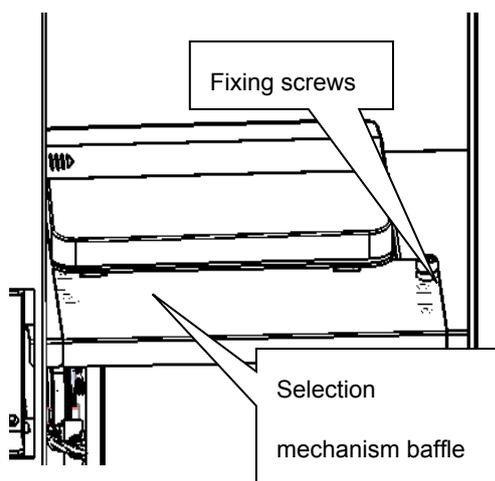

Figure 8-21
1. Remove the fixing screws of the selection mechanism baffle and take out the baffle (as shown in Figure 8-21).
Step 5: Remove the selection mechanism baffle (Figure 8-21).